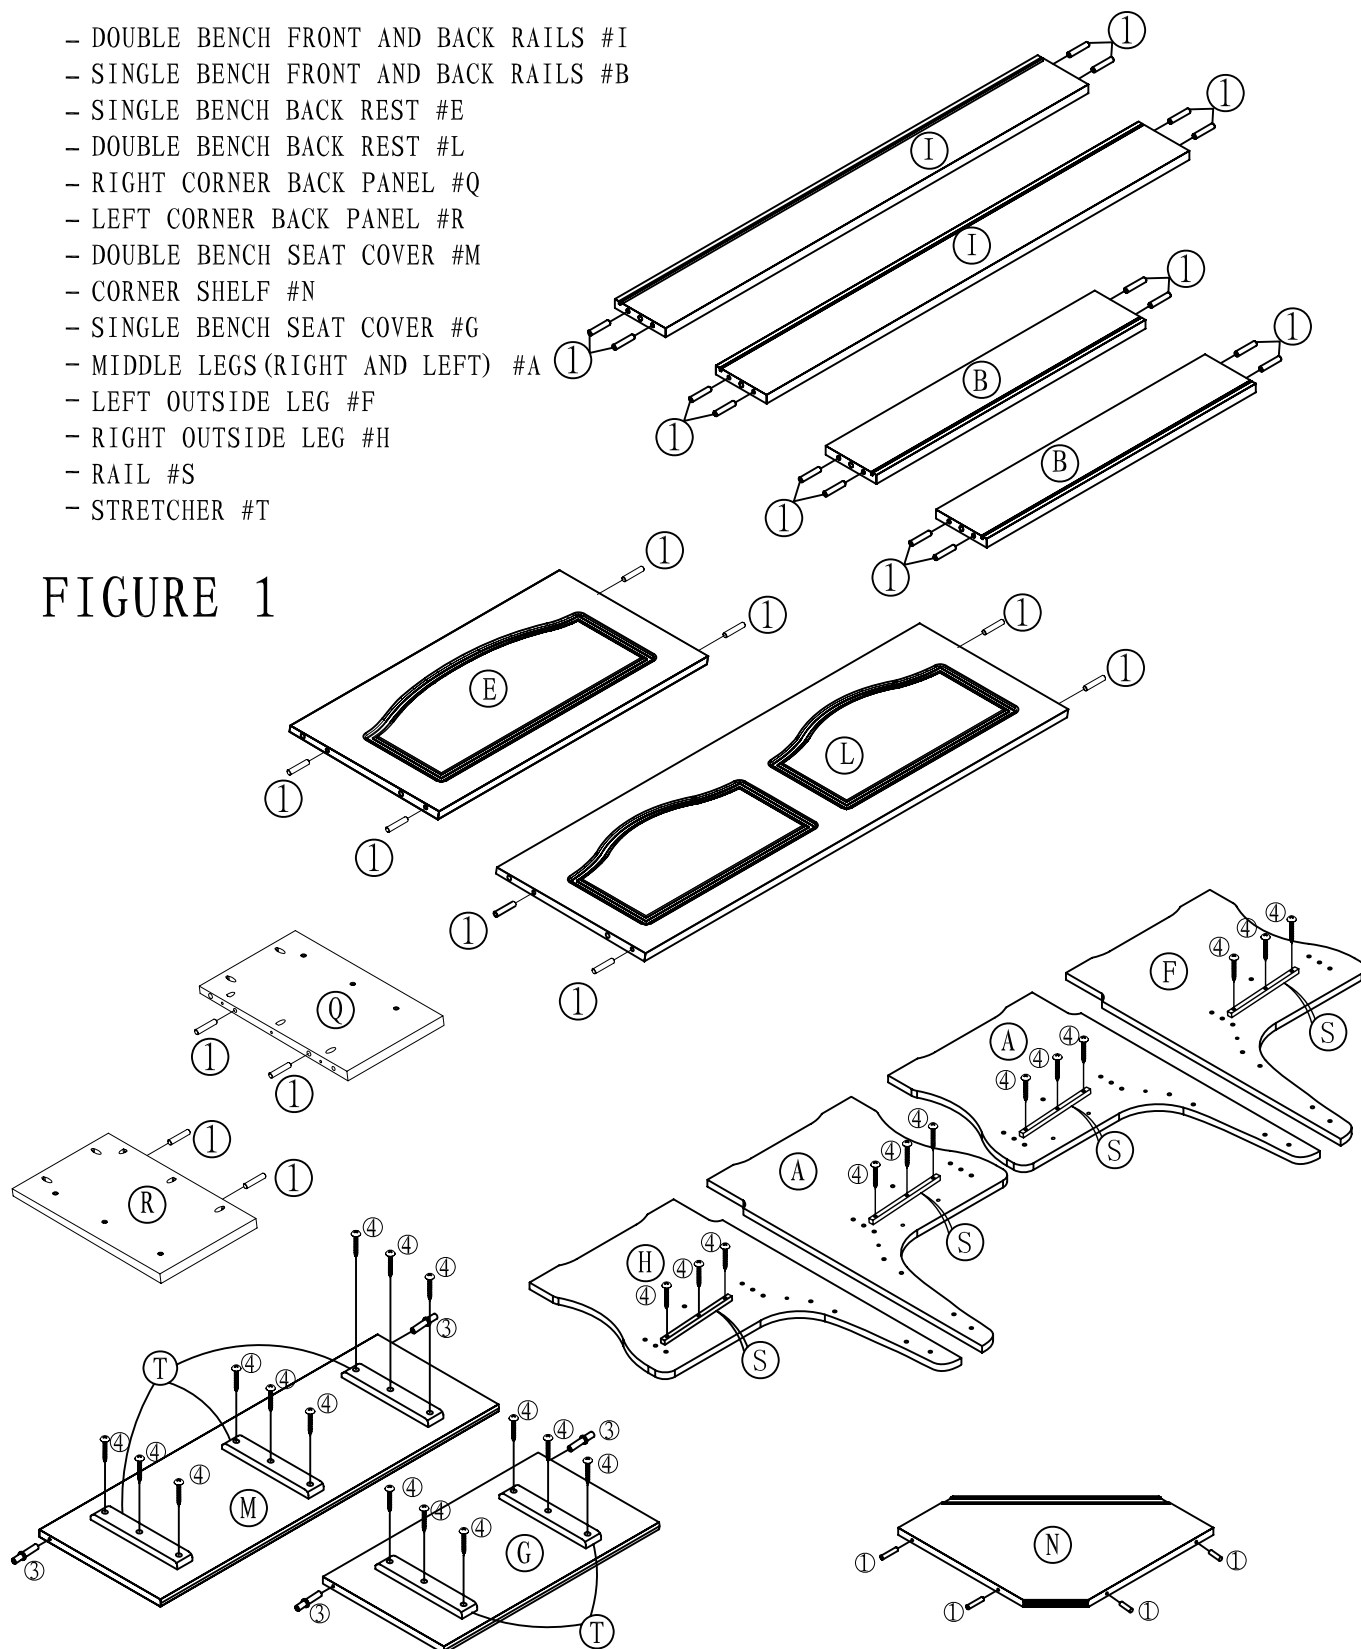

FIGURE 1
1.1 INSERT (32) WOOD DOWELS ① INTO HOLES LOCATED ON EDGES OF THE PART (I, B, E, L, Q, R, N); (4) PLASTIC PIN ③ INTO HOLES LOCATED ON EDGES OF THE PART (G, M); (27) SCREW ④ INTO HOLES LOCATED ON EDGES OF THE PARTS (A, F, H, M, G). AS SHOWN IN FIGURE 1: